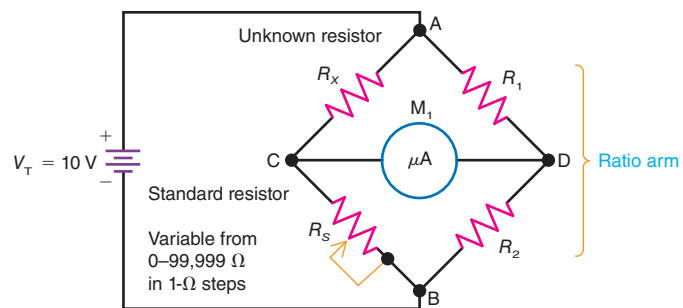

Figure 7-31
Problems 18–22 refer to Fig. 7-31.
7.18 In Fig. 7-31,
7.19 In Fig. 7-31, assume that the bridge is balanced when
- 7.21** In Fig. 7-31, calculate the maximum unknown resistor, $R_{x(\max)}$, that can be measured for the following ratio arm values:
- 7.22** Assume that the same unknown resistor, R_x , is measured using different ratio arm fractions in Fig. 7-31. In each case, the standard resistor, R_s , is adjusted to provide the balanced condition. The values for each measurement are